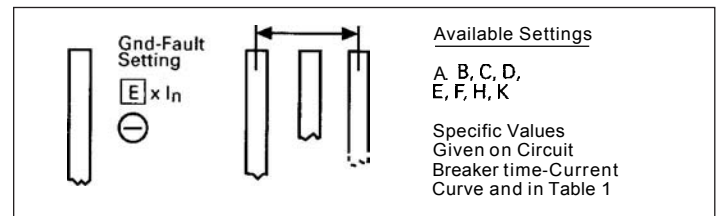

Figure 17. Ground Fault Settings.
The eight (8) Ground Fault "Pick-up" Current Settings are labeled with the code letters "A" through "K" (except there are no "G" or "I" settings), as illustrated in Figure 17. In general, the specific current settings range from 0.25 to 1.0 times (I_n), the rating plug value, but cannot exceed 1200 A. The specific Ground Current Settings for each letter are listed in Table 1 and on the (G) Time-Current Curve applicable for the circuit breaker (see Section 5).